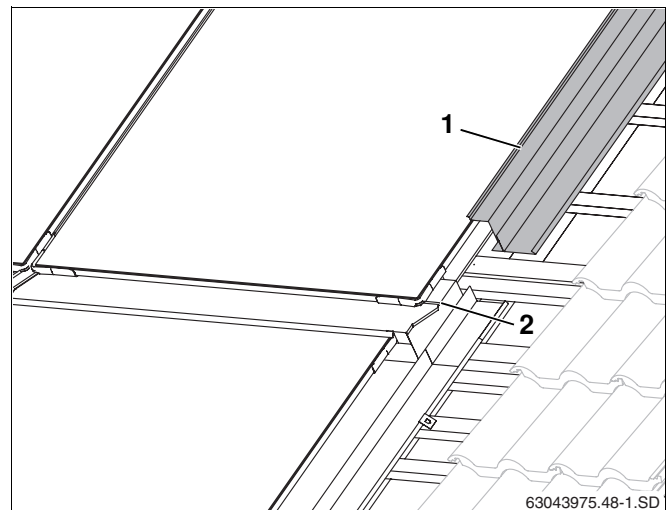

Fig. 55 Upper right facing collector
- Fit the upper side facing collectors (Fig. 55, **Item 1**) in the same way as the lower ones (Chapter 10.2 "Side facing collectors").
- Push the side facing collectors over the collector fold in the middle collectors (Fig. 55, **Item 2**).